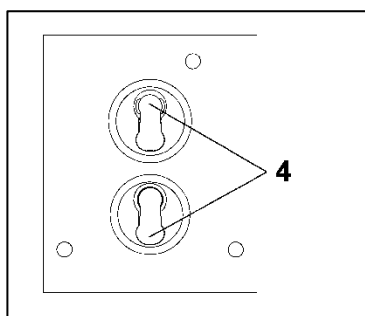

Fig. 18: Position of valve plates
1. Lay the new O-ring (18) on the diaphragm recording (14).
2. Lay the new valve plates (Fig. 18/4) and the new O-rings (5) on the intermediate plates (3), (7) and (8).
i Upper and lower sides of the valve plates are identical. For correct position see Fig. 18.